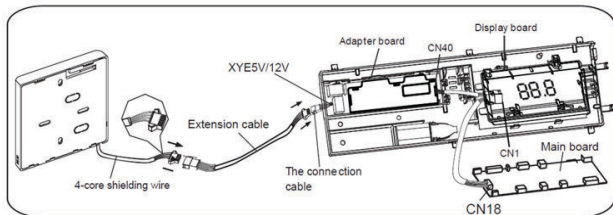

Fig. 8 — Installation of KSACN0801AAA
8. Review figure 8 and connect the black female 4-pin plug, coming from the multifunction board, to the male end of the extension wire.
9. Review figure 8 and connect the female plug of the extension wire to the male plug on the wired controller and close all covers.